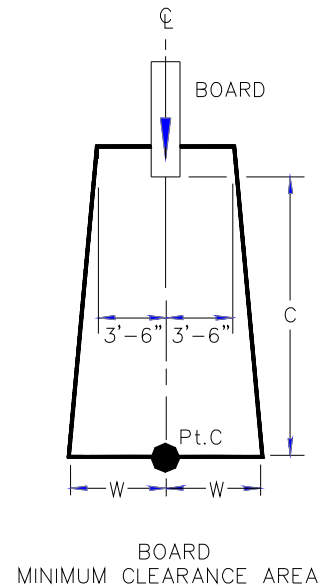

FIGURE 4
- A. The minimum clearance area in front of a properly installed diving board on an inground swimming pool is a minimum distance of three feet six inches (3'-6") on either side of the board's centerline as shown in Figure 4. Pt. C extends a minimum distance of "C" from the tip end of the board as shown in Figure 4. The width distance "W" on either side of Pt. C is given in Chart 1 and shown in Figure 4.